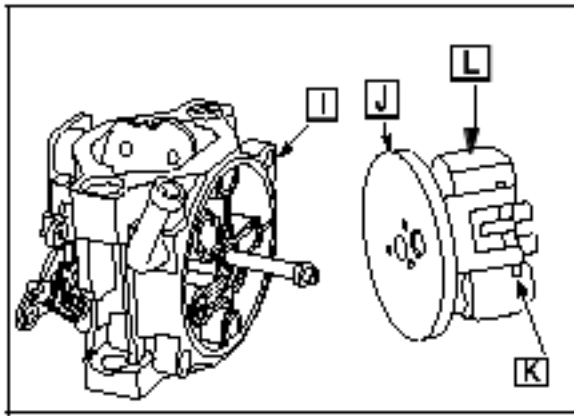

Fig. 133
Separate the float and needle from the float base (L) Fig. 133).
Remove the float base gasket ([I] Fig. 133) from the carburetor body.